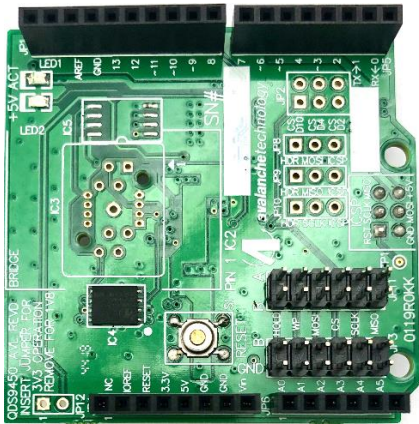
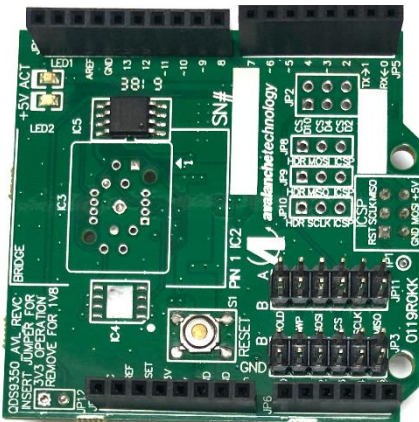

Figure 1: Renesas MRAM Evaluation Board populated with a DFN (WSON)-8 MRAM device
Figure 3: Renesas MRAM Evaluation Board populated with an SOIC-8 MRAM device
1. Attach the Renesas MRAM evaluation board on top of the Arduino UNO host board via the UNO R3 headers (refer to Figures 1 and 2 or Figures 3 and 4).